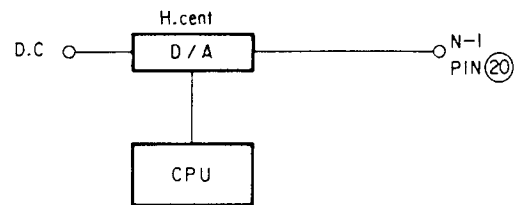

Fig. 3-12 H. CENT correction block
The signal of CPU (IC3) is input to IC4 (D/A) to adjust the voltage. And it is sent out to the D3 board as the H. CENT correction voltage from pin ⑳ of connector N-1. The block diagram of H. CENT correction waveform circuit is as shown in Fig. 3-12.